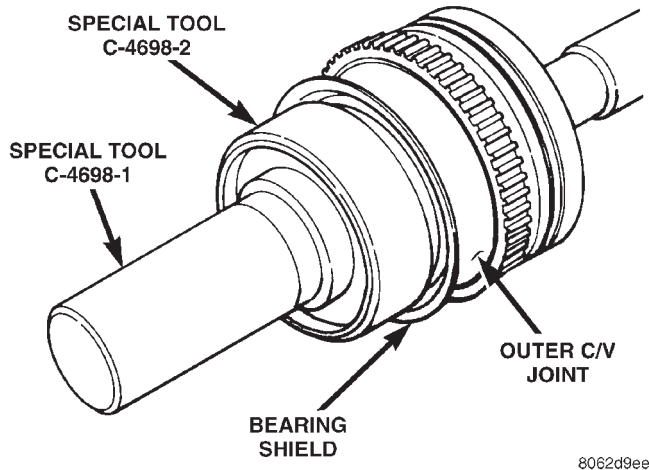

Fig. 52 Special Tools for Installing Bearing Shield
- (1) Install bearing shield by hand on outer C/V Joint so that it is installed squarely on the C/V joint.
- (2) Position installer, Special Tool, C-4698-2 and handle, Special Tool, C-4698-1 on face of bearing shield (Fig. 52).